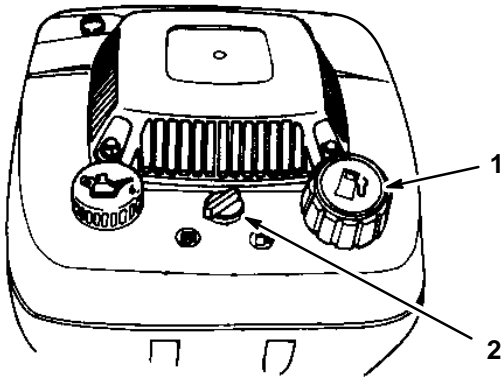

Figure 7
2. Clean around the fuel tank cap and remove the cap from the tank (Fig. 7).
1. Open the fuel valve (Fig. 7).